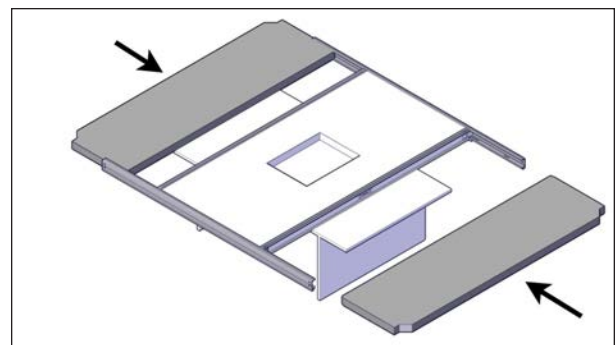

FIGURE 24: END PANELS
4. Slide the end panels on both ends of the cover. Make sure the I-beams have slid over the panel on both bottom and top sides, see Figure 24.